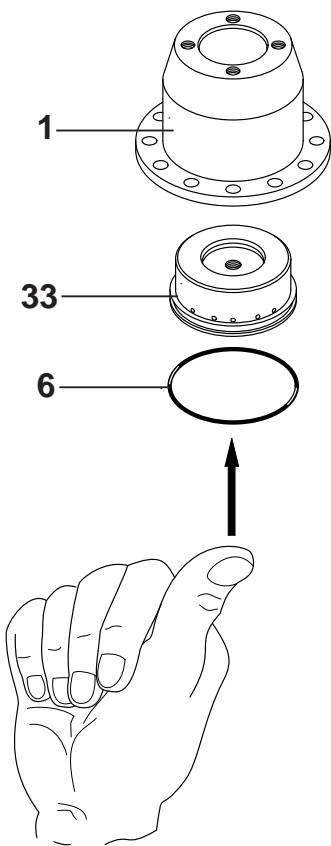

Fig. 8.2a
- a) Insert the O-ring **pos. 6** in the seat of the diffuser **pos. 33** and lubricate with KLUBER PARALIQ® GTE 703 type silicon grease.
- b) Fit the diffuser **pos. 33** in the upper body **pos. 1**. This must be selected according to flow rate, as per **table "A"**, of the manual, see **(fig. 8.2a)**.